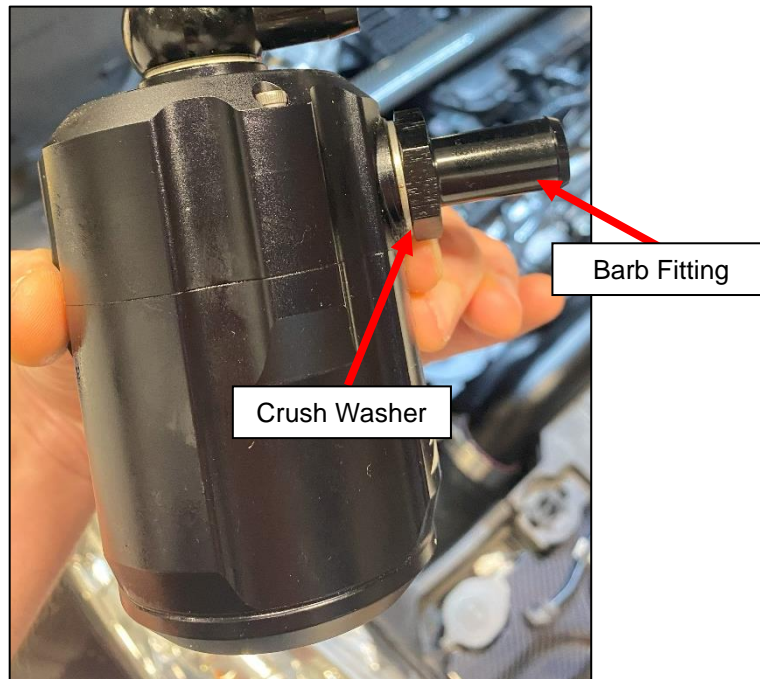

Figure 2
5. Locate the Z1 Catch Can, (1) one Crush Washer and the Barb Fitting. Place the Washer on the threads of the Barb Fitting, then install the Barb Fitting into the side of the Catch Can. *Figure 2*.